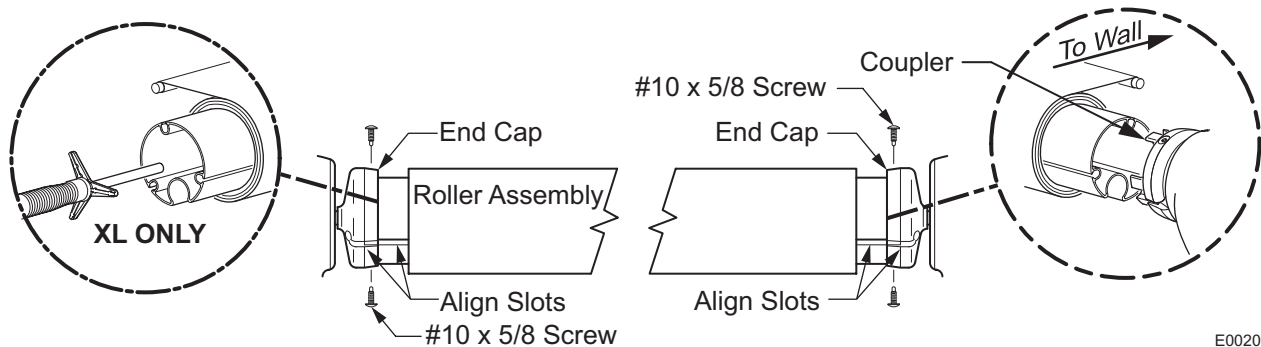

Figure 6. Assembling the Awning.
4. (Refer to Figure 6) Align the roller assembly with the coupler on the motorized arm assembly. Partially insert the coupler into the roller assembly.